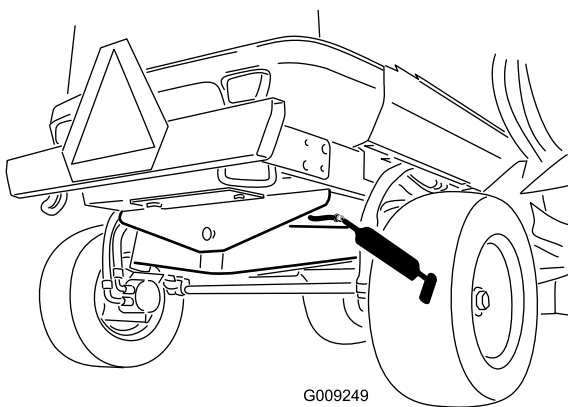

Figure 52
- 1 rear axle pivot bushing (Figure 52)